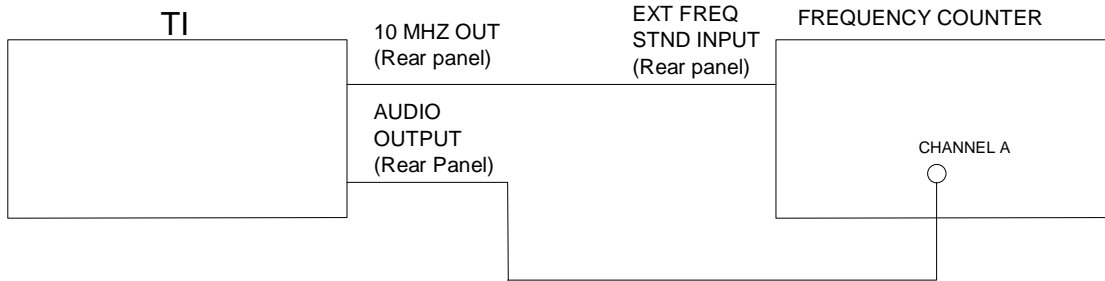

Figure 2.
4.2.1 Connect equipment as shown in Figure 2.